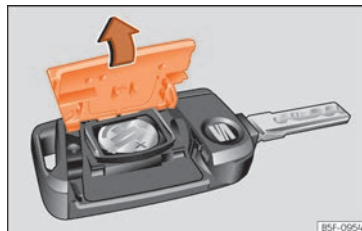

Fig. 79 Vehicle key: opening the battery compartment cover.
- Remove the cover from the back of the vehicle key »» Fig. 79 in the direction of the arrow »» ①.
- Fit the cover as shown »» Fig. 79, pressing it onto the vehicle key casing in the opposite direction to that shown by the arrow until it clicks into place.